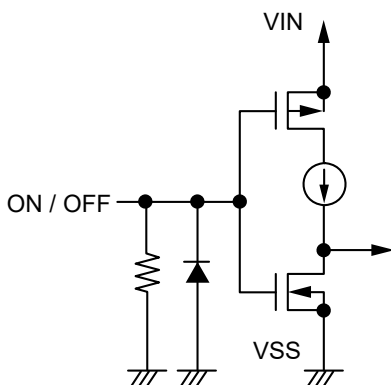
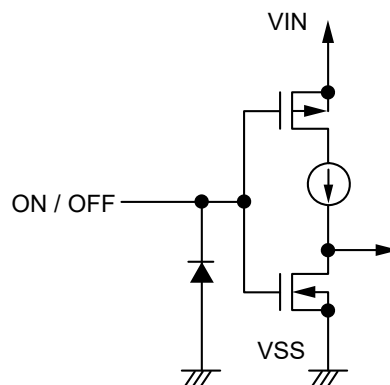

Figure 18 S-1333 Series A / C type
Figure 19 S-1333 Series B / D type
Note that the current consumption increases when a voltage of 0.25 V to $V_{IN} - 0.3$ V is applied to the ON / OFF pin. The ON / OFF pin is configured as shown in **Figure 18** and **Figure 19**.
*1. Note that the IC's current consumption increases as much as current flows into the pull-down resistor when the ON / OFF pin is connected to the VIN pin and the S-1333 Series A / C type is operating (refer to **Figure 18**).